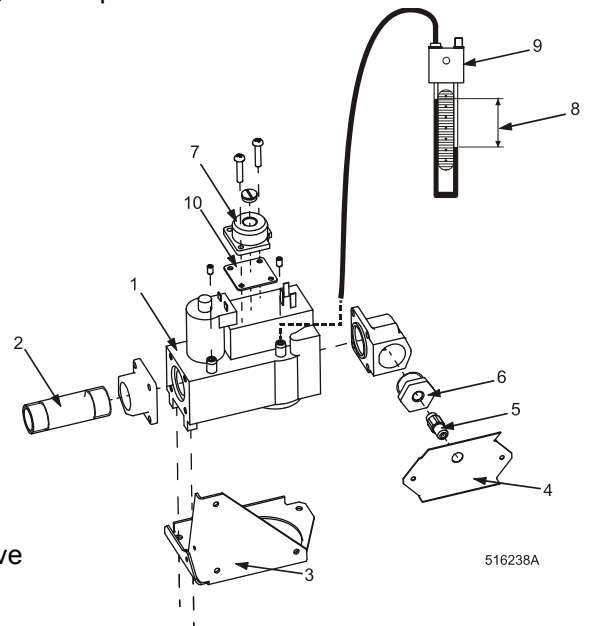

Fig.4.6.2. Gas shut off valve
- Unscrew the bolts fixing the gas valve to the holder (fig.4.6.2., pos.3).
- Remove the valve out of machine. Replace the nozzle (fig.4.6.2., pos.5). Size of nozzle according to **appendix 530762**.
- Unscrew the regulator from the gas valve (fig.4.6.2., pos.7) or covering plug (fig.4.6.2., pos.10) and install the plug (or regulator - part of the machine supply).
- When the gas regulator is installed, set required pressure on the nozzle with the machine running, using manometer (fig.4.6.2., pos.8 and 9) according to **appendix 530762**.